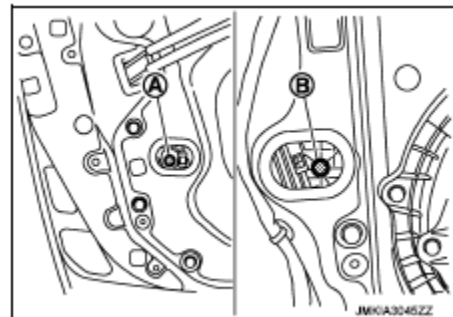

Figure 3
8. Operate the power window up or down as needed to access the bolts (A & B) shown in Figure 3.
9. Loosen the bolts (A & B) shown in Figure 3 just enough to allow window movement/adjustment.